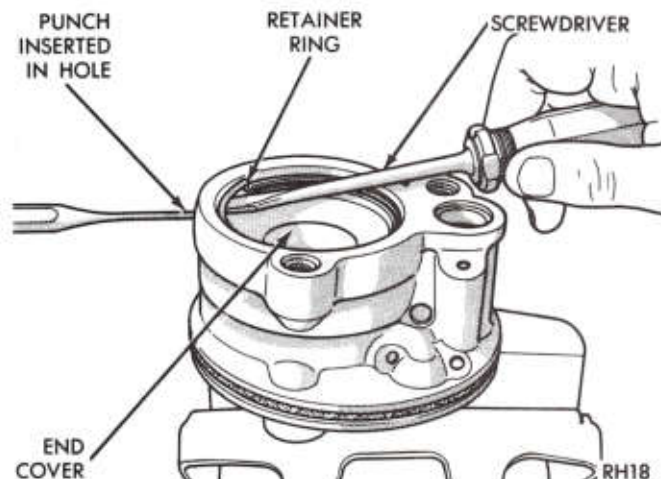
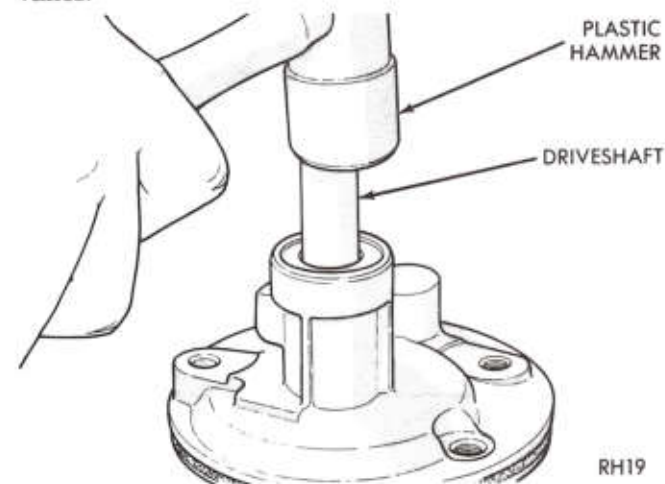
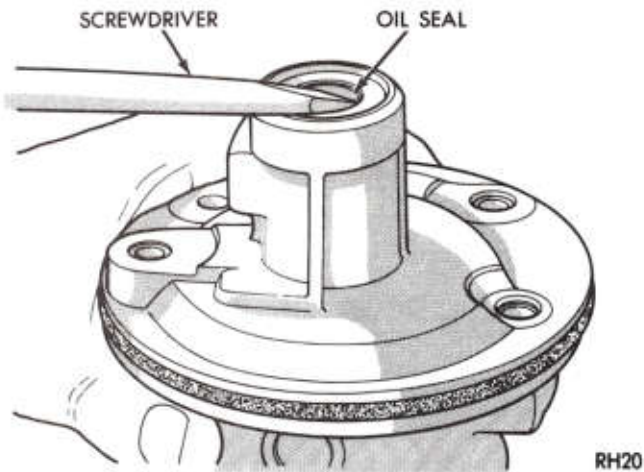

Fig. 6—Remove End Cover Retaining Ring
Fig. 7—Remove Driveshaft Assembly
Fig. 8—Remove Seal
(7) Using a punch, tap end cover retainer ring around until one end of ring is near hole in pump body. Insert punch in hole far enough to disengage ring from groove in pump bore and pry ring out of pump body (Fig. 6).
(8) Tap end cover with plastic hammer to jar it loose. Spring under cover should push cover up.
(9) Remove pump body from vise, place in inverted position on flat surface and tap end of driveshaft with plastic hammer to loosen pressure plate, rotor and thrust plate assembly from body. Lift pump body off rotor assembly. Flow control valve and spring should slide out of bore also (Fig. 7).
(10) Remove and discard end cover and pressure plate O-rings.
(11) Place pump body on flat surface and pry driveshaft oil seal out with a screwdriver (Fig. 8).
(12) Inspect seal bore in housing for burrs, nicks or score marks that would allow oil to bypass outer seal surface.